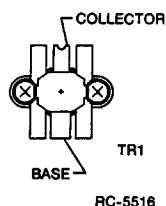

Figure 2 - PA Transistor Lead Identification
4. Remove all excess solder from the board, and clean the holes to allow the new transistor to be positioned properly and the capacitors to fit into proper locations. Refer to Figure 2 and trim the new transistor leads (if required) to the lead length of the removed transistor.